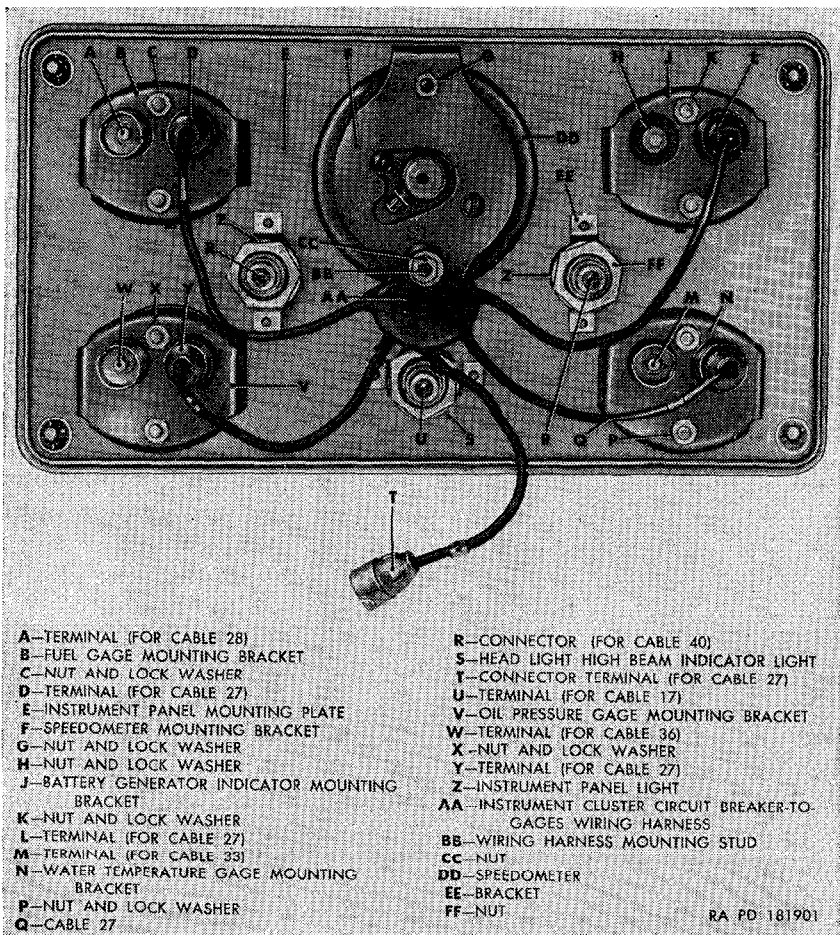

Figure 115. Instrument cluster (M170)—rear view.
Note. The key letters noted in parentheses refer to figure 115, except where otherwise indicated.
c. Removal (M170). Turn the four instrument cluster mounting plate studs (A, fig. 113) one-half turn counterclockwise and pull instrument cluster free from instrument panel. Unscrew the instrument panel light cover (D, fig. 113) from the instrument panel light (Z, fig. 115). Disconnect cable 40 from connector (R, fig. 115). Unscrew the nut (FF, fig. 115) and remove the lockwasher securing the instrument panel light (Z, fig. 115) to the bracket (EE, fig. 115) and push light out of bracket from the rear of the panel and through the opening in the panel.
d. Installation (M170). Insert the instrument panel light into the bracket (EE, fig. 115) through the opening in the instrument cluster panel. Place a lockwasher over the threaded end of the light and install the nut (FF, fig. 115) securing the light to the bracket (EE, fig. 115). Connect cable 40 to the connector (R, fig. 115). Screw the cover (D, fig. 113) onto the instrument panel light (Z, fig. 115). Position the instrument cluster on the instrument panel and turn the four instrument cluster mounting plate studs (A, fig. 113) one-half turn clockwise.
c. Removal (M170). Follow the same procedure as outlined in paragraph 179b(1) for instrument panel lights except that cable 17 is disconnected from connector (T, fig. 115).
d. Installation (M170). Follow the same procedure as outlined in paragraph 179b(2) for instrument panel lights except that cable 17 is connected to the connector (T, fig. 115).